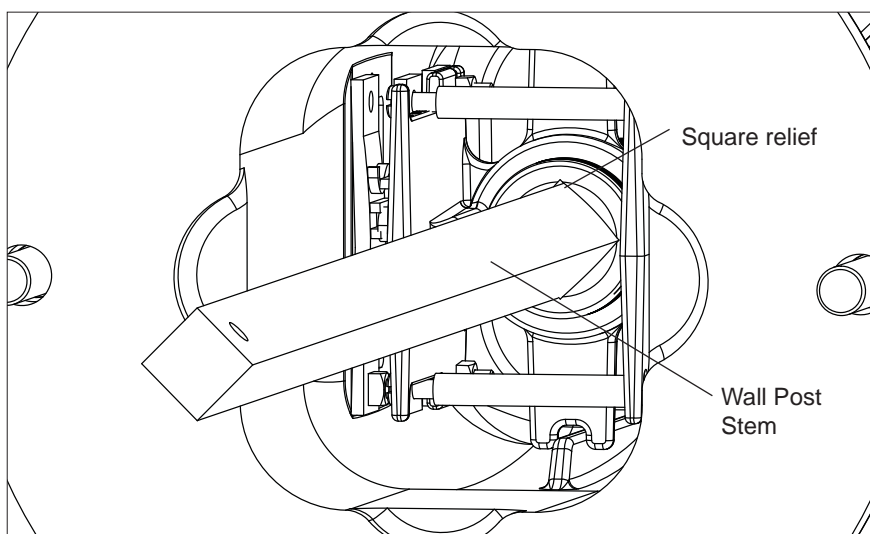

Fig. 6
6. Using a sufficient supporting device, lift Wall Post Head Assembly and align the internal Stem Nut square relief with the Wall Post Stem. Minor adjustment of the Handwheel may be necessary to position the square relief correctly. (See Fig. 6)